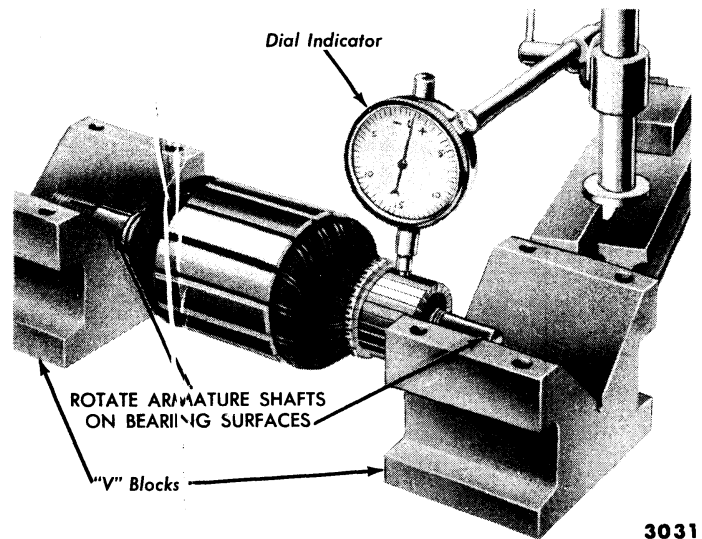
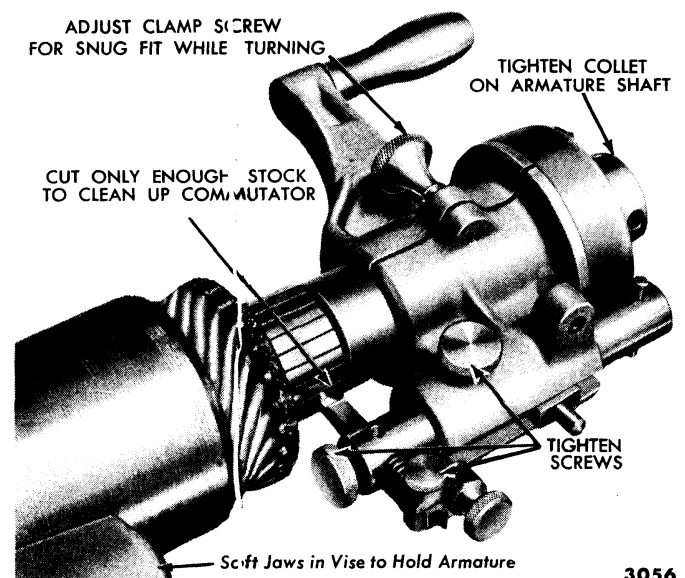

Fig. 20—Commutator Runout Check
Fig. 21—Starter Commutator Turning
ture for open circuits and grounds. Check the commutator for runout (fig. 20). Inspect the armature shaft and the two bearings for scoring and excessive wear. Check the brush holders for broken springs and the insulated brush holders for shorts to ground. Check the brush spring tension. It should be 48-56 ounces. Replace the springs if the tension is not within limits. Inspect the field coils for burned or broken insulation. Check the field brush solder connections and lead insulation.
(4) **COMMUTATOR TURNING.** Check the commutator runout as shown in fig. 20. If the surface of the commutator is rough or more than 0.002 inch out-of-round, turn it down in a lathe or with a turning tool, (fig. 21).